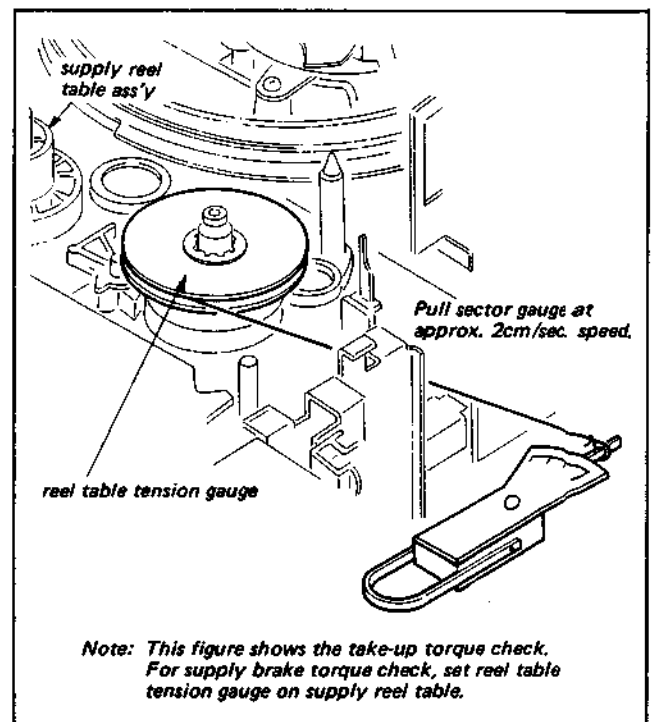

Fig. 3-41. Check of supply and take-up brake torque
2. Attach the reel table tension gauge (Tool Kit Ref. No. J-5) to the take-up reel table as shown in Fig. 3-41 and hook the sector type gauge (100g full scale, Tool Kit Ref. No. J-8) to the end of the string. Pull the sector type gauge at a speed of approx. 2 cm/sec. and read the gauge value.